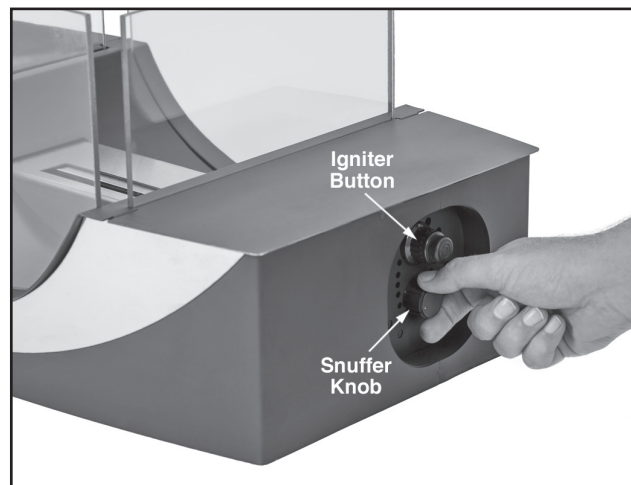

Figure 9
1. Use the knob (located at the right side of the appliance – Figure 9) to slide the snuffer device or burner cover to the rear of the burner. Be sure that the cover is slid back far enough to fully expose the burner slot.